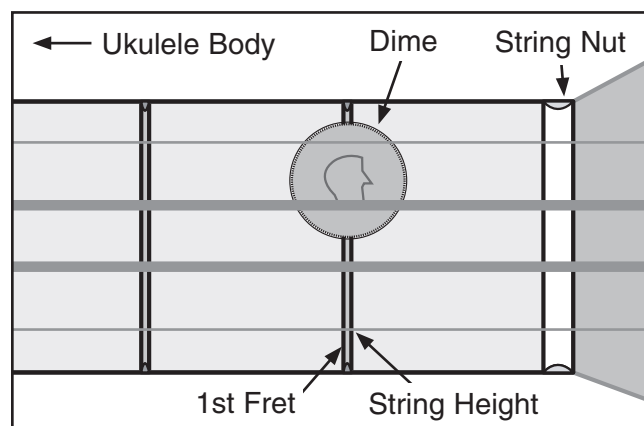

Figure 24. Correct 1st fret string heights.
1. Using a dime as a gauge, measure the string heights at the 1st fret (see **Figure 24**).